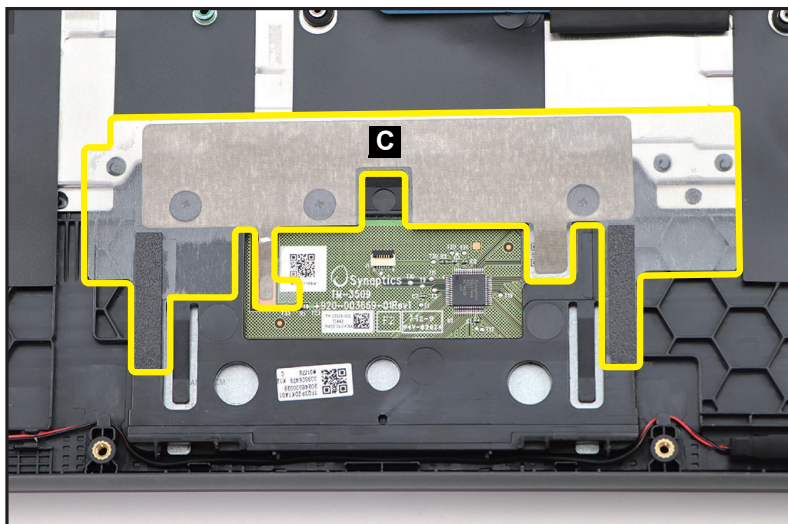

Figure 3-15. Touchpad Module Removal
4. Gently peel off the conductive tape with mylar (C) from the touchpad module and top assembly (Figure 3-15).